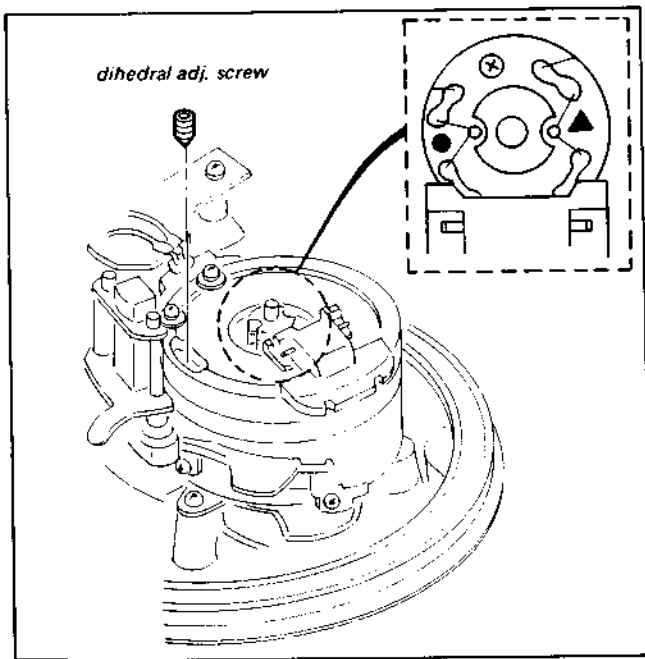

Fig. 3-60.
- When the dihedral is no-good, the preparation of the video head dihedral adjustment is to install two dihedral adjusting screws in the holes close to the small mark (●) shown in Fig. 3-60 and tighten them until the screw heads are level with the top surface of the video head disc. (If the screws are not tightened until their heads become level with the surface, the upper drum of the video head disc is caught by the adjusting screw heads and the video head disc cannot rotate. If the screws are tightened excessively, the head base is moved and the dihedral distortion becomes larger.)